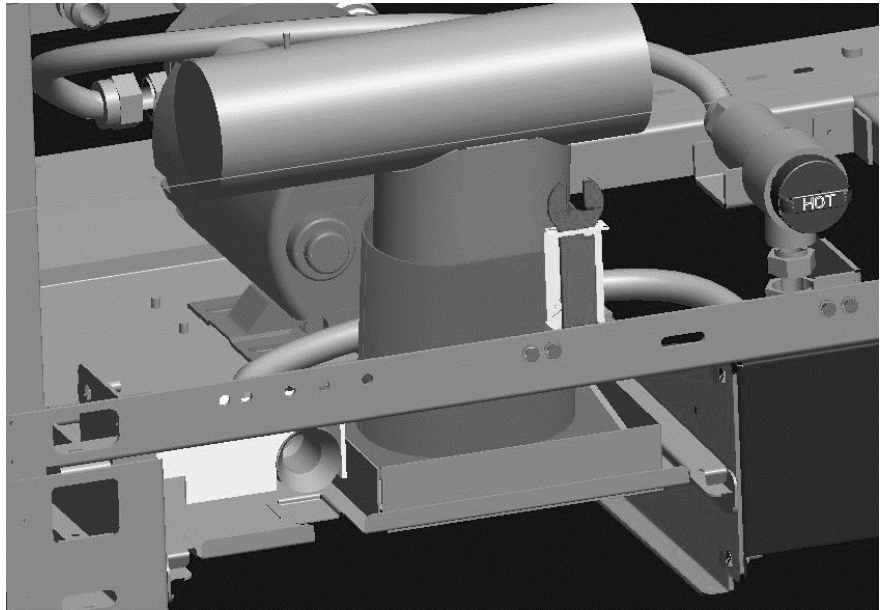

Figure 3: Mount the pre-filter and the wrench holder as shown using existing holes.
4. Position and install the pre-filter assembly using existing holes. **See Figure 3.**
8. Mount the filter wrench holder and wrench. **See Figure 3.**